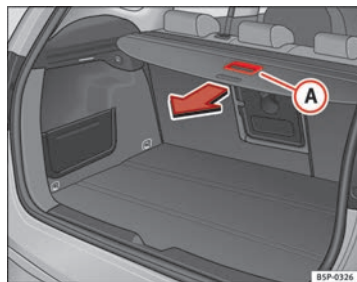

Fig. 123 Using the rear shelf
- Use the handle (A) to pull the shelf back until you hear a “click” ⇒ Fig. 123.